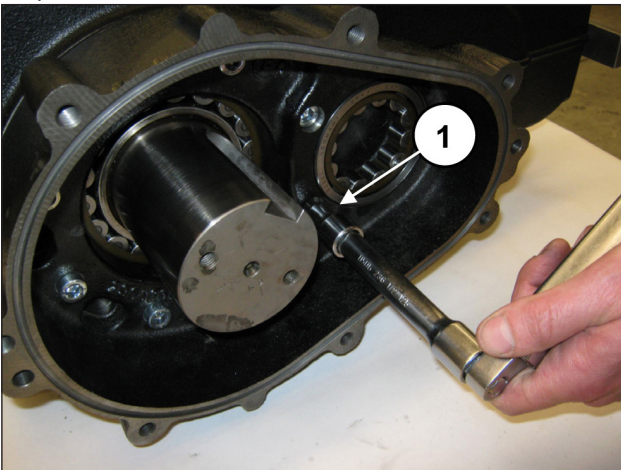

Fig. 64
Tighten the 8 M10x40 screws (pos. ①, Fig. 64). Calibrate the screws with a torque wrench as indicated in chapter 3 SCREW TIGHTENING CALIBRATION.